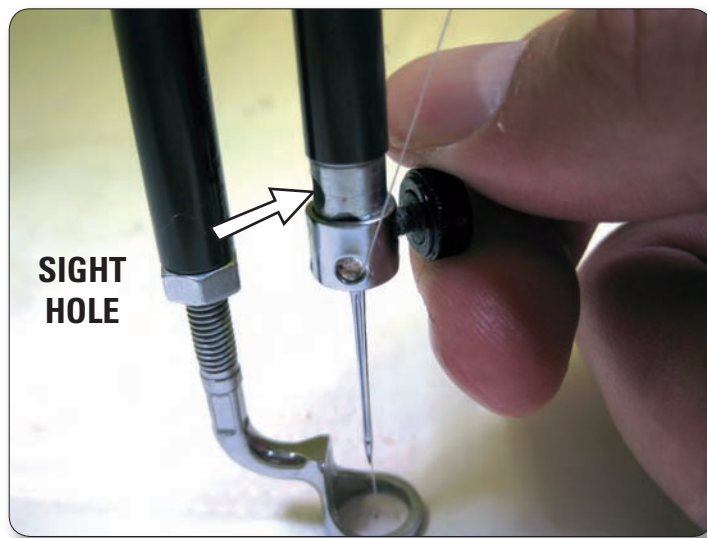

Figure 7
Important: Check the needle to confirm that it is fully inserted. The needle bar has a stop/sight hole above the needle bar clamp screw – make sure the needle is touching the top of the stop/sight hole (Figure 7). If it is not, the machine timing will be off and it may be possible for the needle to collide with internal parts causing damage not covered by warranty.
4. With the scarf (small ground out section/dip on the back side of the needle just above the needle eye) facing the rear hand wheel side of the machine, and the long groove down the front of the needle facing the bobbin case side (see Figure 7), push the needle all the way up into the needle bar – until it can go no farther. Look into the sight hole to verify that the butt of the needle reaches the top of the sight hole.